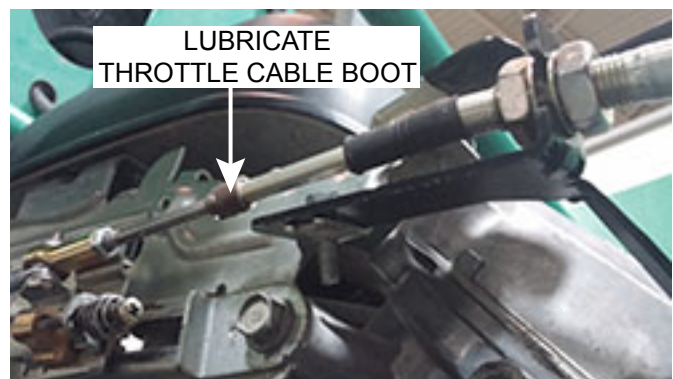

Figure 17. Throttle Cable Boot Lubrication
- Using an antiseize lubricant, lubricate both ends of the push/pull throttle cable. Pull the wiper back and lubricate inside boot as shown in Figure 17.